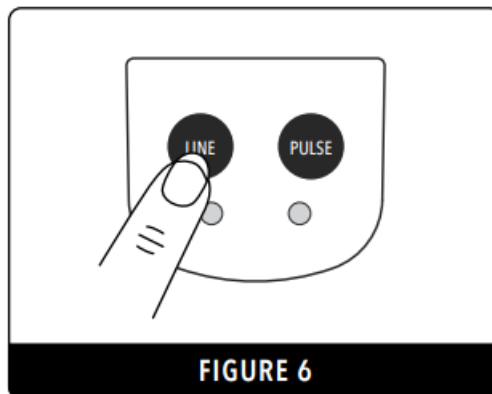

FIGURE 6
- Press the line mode button on the control panel to cycle through the active beams (Fig.6).